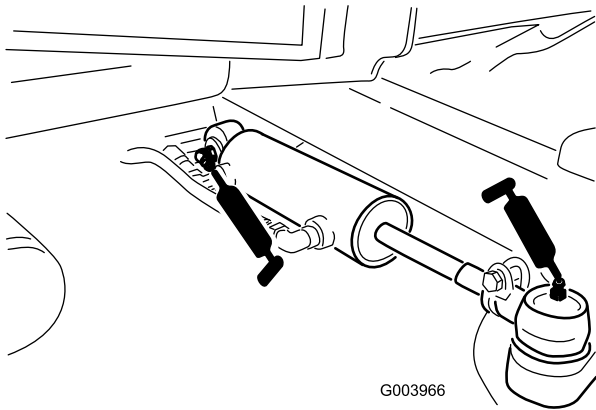

Figure 112
- Steering-cylinder ball joints (2) (Figure 112)